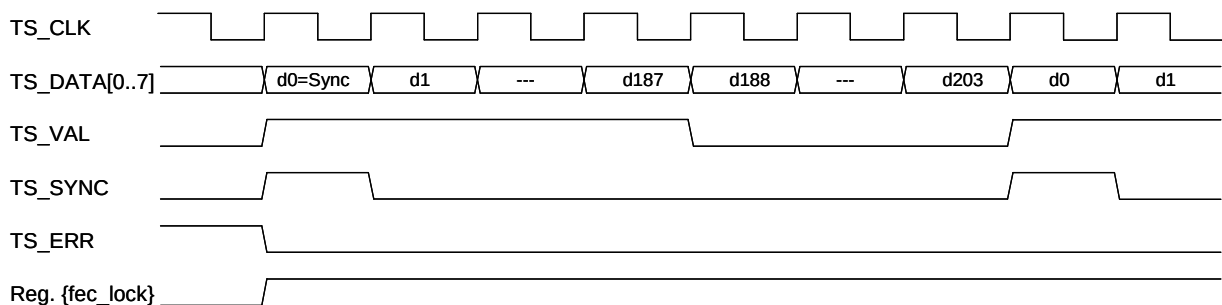

Figure 11. Continuous TS Parallel Mode with Rising Active Clock Edge and Enabled Parity Bytes
- In mode1 continuous, TS_CLK remains active during the parity bytes. TS_VAL is used to distinguish between valid TS data and parity bytes. Figures 11 and 12 provide output timing waveforms.